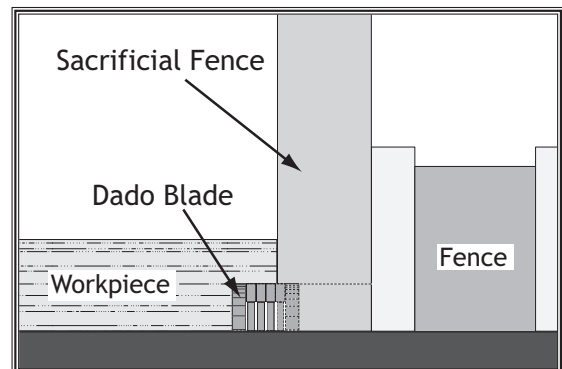

Figure 63. Rabbet cutting with a dado blade
3. Adjust the fence and align the workpiece to perform the cutting operation, as shown in **Figure 63**.